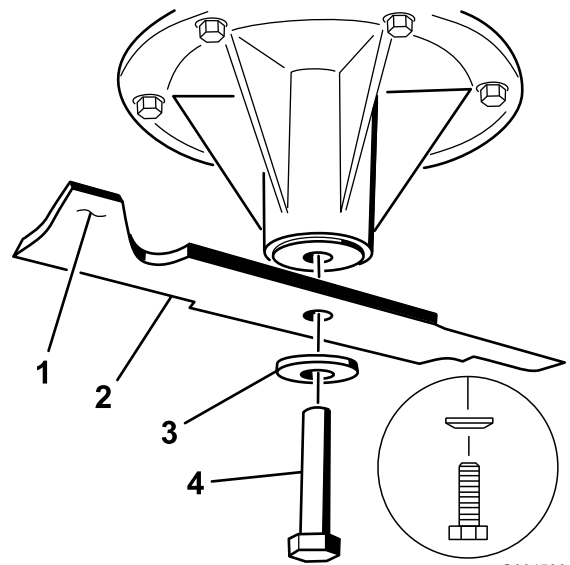

Figure 101
1. Install the blade onto the spindle shaft (Figure 101).
2. Install the spring disk and blade bolt. The spring disk cone must be installed toward the bolt head (Figure 101). Torque the blade bolt to 85-110 ft-lb (115-150 N-m).